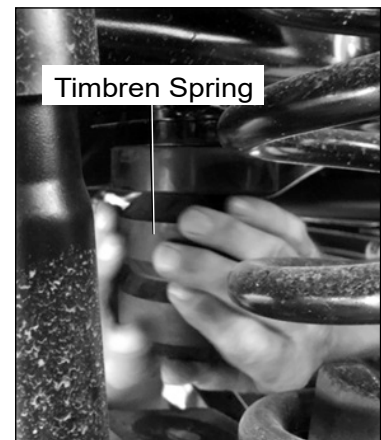

Figure 6 – Installing Timbren Spring
- Install the spacer(s) and Timbren spring on the mounting fastener in the original orientation, (refer to Figure 6). Tighten it by hand by turning it clockwise as viewed from below until it bottoms out against the spacer and cannot be rotated any farther. No tools are required.